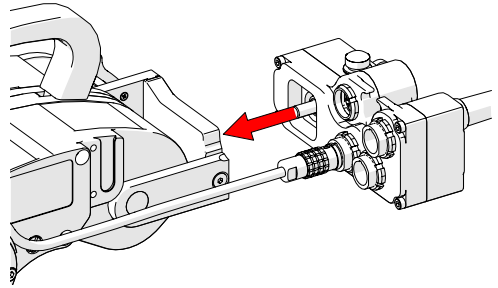

Fig. 103 - Align with drive module mount
5. Align the umbilical to the umbilical mount of the drive module (*Fig. 103*).